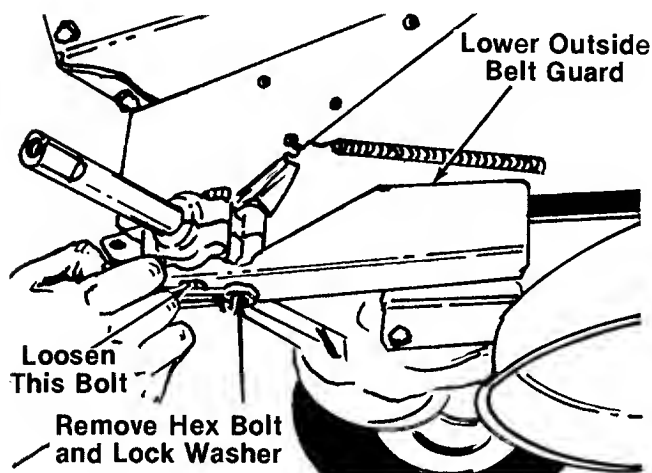

FIGURE 22.
4. Remove one hex bolt and lock washer at the front of lower outside belt guard. A 7/16" wrench is required. See figure 22.
5. Loosen (**Do Not** remove) the second bolt. See figure 22.